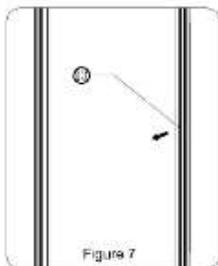
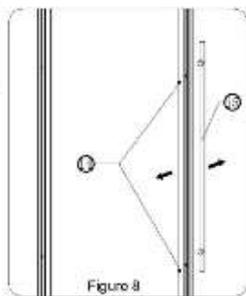

Figure 7
Figure 8
- 5 Pull open the middle section of the door gasket, the screw will then come out of the handle screw hole (Fig 7). Remove the handle and install it on the opposite side (Fig 8).